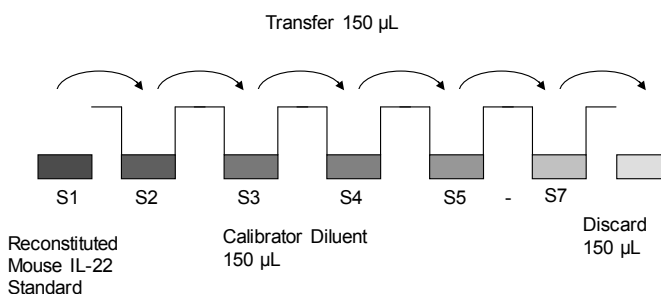

Fig. 6 External standard dilution
- Repeat serial dilutions 4 more times thus creating the points of the standard curve (see Figure 6).